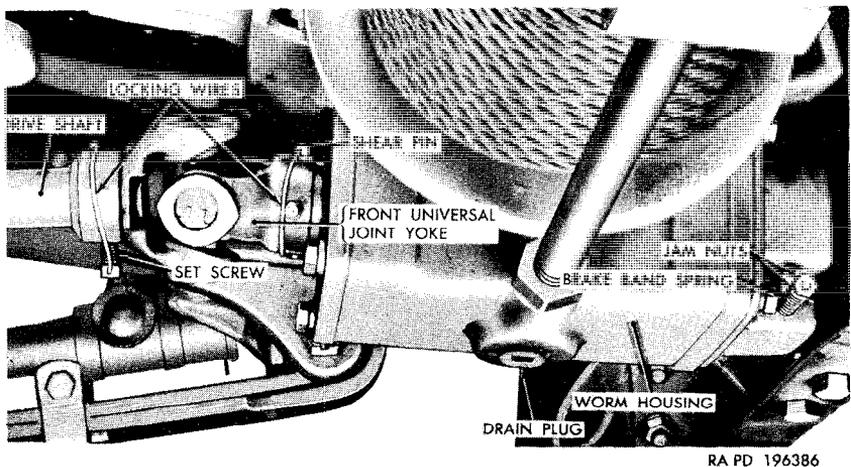

Figure 153. Winch—bottom view.
- (1) If the drive shaft is equipped with a collar, remove the locking wire from the collar setscrew at rear universal joint, loosen the setscrew, and slide the collar forward.
- (2) Remove the locking wire (fig. 153) from the drive shaft shearpin (fig. 153) and remove the shearpin.
- (3) Slide the front universal joint yoke (fig. 153) toward the rear far enough to clear the wormshaft.
- (1) Remove the outer jamnut (fig. 153) from the brake band end.
- (2) Insert a long punch through the shearpin hole in the wormshaft. Oscillate the shaft with the punch and at the same time tighten the inner jamnut on the brake band end until a
- (1) Remove the punch from the shearpin hole in the wormshaft and position the universal joint front yoke on the wormshaft, aligning the shearpin holes. Install the shearpin and secure with locking wire (fig. 153).
- (2) If the drive shaft is equipped with a collar, position the collar to provide $\frac{5}{8}$ -inch clearance between the collar and the
- (2) Remove the locking wire from the shearpin (fig. 153) and remove the shearpin. Push the shaft and assembled parts to the rear, and remove the front universal joint yoke (fig. 153) from the wormshaft.
- (3) Remove the 10 bolts and lockwashers that secure the winch brackets to the frame side rails and front bumpers, and raise the left side of the winch sufficiently to permit removal of the drive shaft.
- (4) Pull the shaft forward to disengage the splined end of the shaft from the front yoke of the rear universal joint, and remove the shaft. Remove the collar (if so equipped) as the shaft is removed.
- (5) Remove the locking wire from the setscrew in the rear universal joint yoke, loosen the setscrew, and remove the universal joint from the power-take-off. Remove the woodruff key from the power-take-off shaft. Remove the front universal joint from the drive shaft in the same manner.
- (1) Install a No. 817 or 127 woodruff key in the keyway at the front end of the drive shaft. Install the rear yoke of the front universal joint on the shaft, aligning the keyway in the yoke with the key. Install the setscrew, tighten, and secure with locking wire (fig. 153).
- (2) Install the rear universal joint on the power-takeoff drive shaft in the manner described in *c*(1) above.
- (3) Apply a light coating of automotive and artillery grease to the splines of the drive shaft. With the winch raised as in *a*(3) above, insert the splined end of the shaft through the opening in the frame reinforcement from the front. Install the collar on the shaft (if so equipped), and insert the shaft in the front yoke of the rear universal joint, aligning the journals of both universal joints. Push the shaft and assembled parts toward the rear.
- (4) Lower the winch into position and align the front universal joint front yoke with the wormshaft. Install the yoke on the wormshaft, aligning the shearpin holes. Install the shearpin and secure with locking wire.
- (5) Install the six $\frac{1}{2}$ -inch lockwashers and $\frac{1}{2}$ -20NF x $1\frac{3}{8}$ bolts for the winch frame brackets and four $\frac{1}{2}$ -inch lockwashers and $\frac{1}{2}$ -20NF x 1 bolts for the bumper brackets. Tighten the bolts evenly.
- (6) If the drive shaft is equipped with a collar, position the collar to provide $\frac{5}{8}$ -inch clearance between the collar and the front end of the universal joint yoke, tighten the collar setscrew, and secure with locking wire.